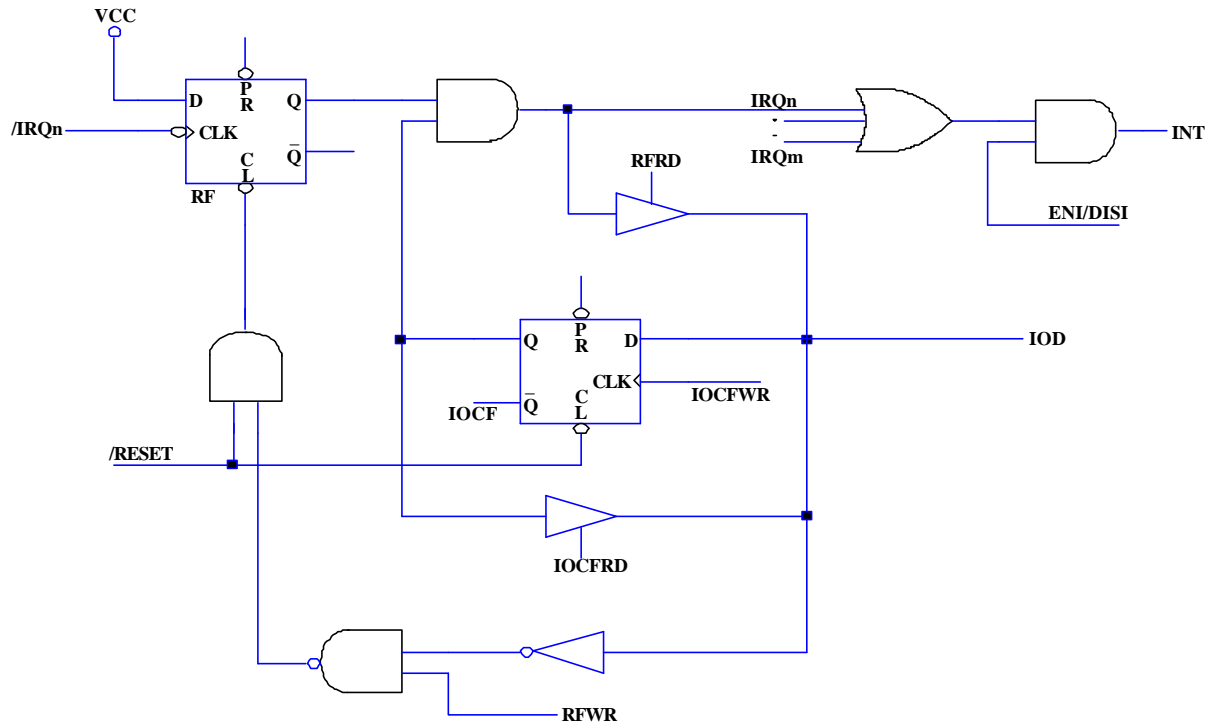

Fig. 11 Interrupt Input Circuit
The flag (except ICIF bit) in the Interrupt Status Register (RF) is set regardless of the status of its mask bit or the execution of ENI. Note that the outcome of RF will be the logic AND of RF and IOCF (refer to Fig. 11). The RETI instruction ends the interrupt routine and enables the global interrupt (the execution of ENI).